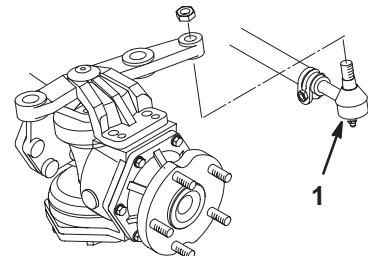

Figure 3
1. Remove jam nuts from ball joint ends of tie rod. Insert ball joint ends into rear hole of each axle steering arm. Insert ball joints from bottom of each steering arm (Fig. 3).